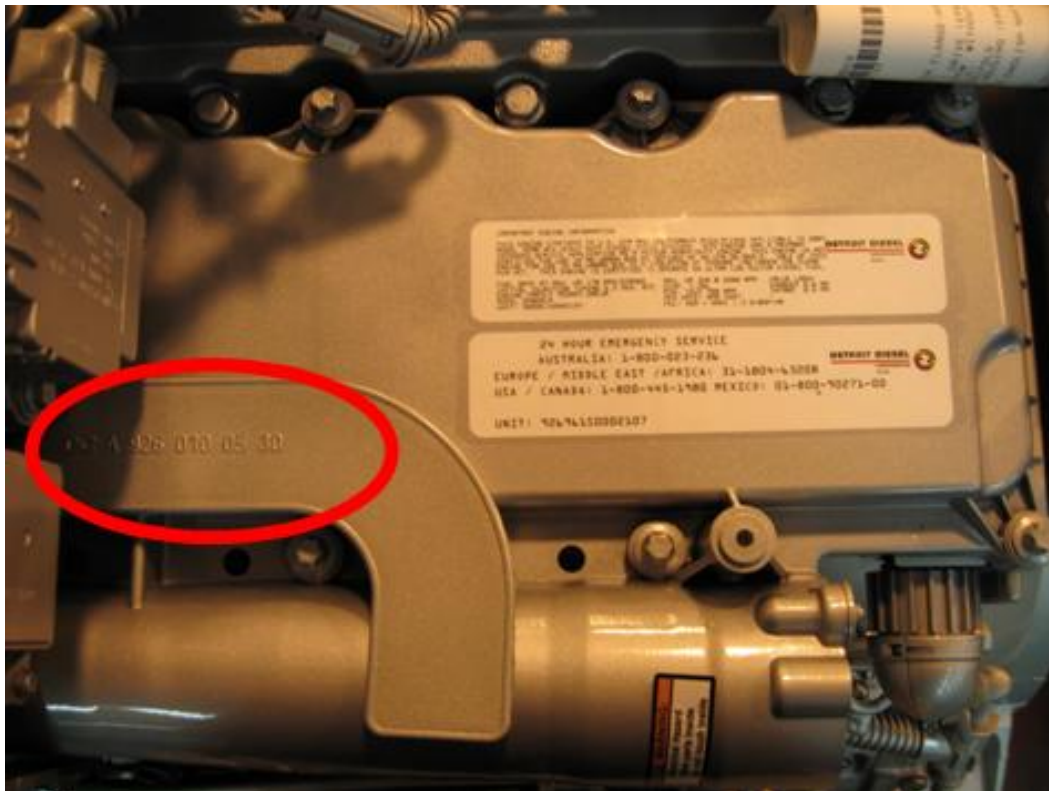

Figure 2 – Location of Electrostatic Oil Separator Part Number
1. Verify the electrostatic oil separator has been updated. The part number on the rocker cover should be P/N: A9260100530. See Figure 2. If the separator needs to be changed, email the Detroit Diesel Customer Support Center at csc@detroitdiesel.com. The new parts will automatically be sent to you free of charge.